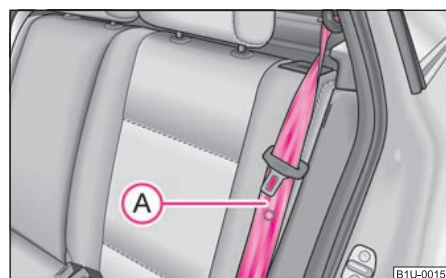

Fig. 66 Lock the seat backrest
- Place the rear lateral seat belt (A) behind the edge of the side trim panel ⇒ page 65, fig. 66.